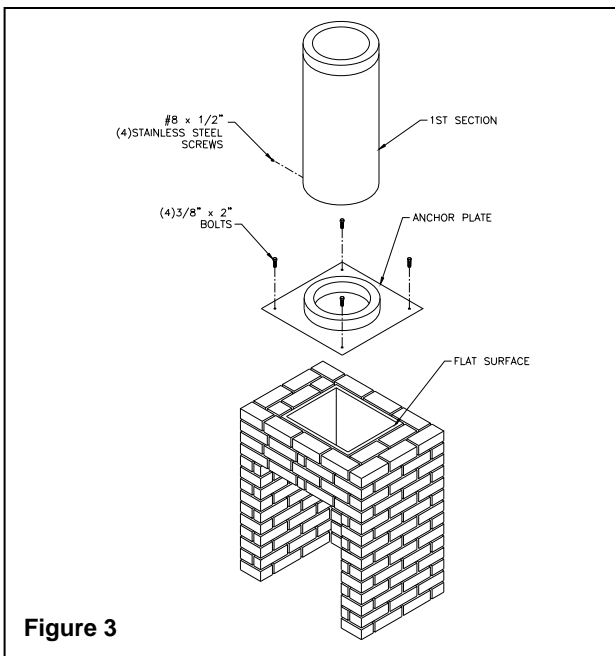

Figure 3
- 2 Put the first chimney length on the anchor plate. Push it down firmly in place. Secure it to the anchor plate using (4) $\frac{1}{2}$ in. #8 stainless steel metal screw. (Figure 3)